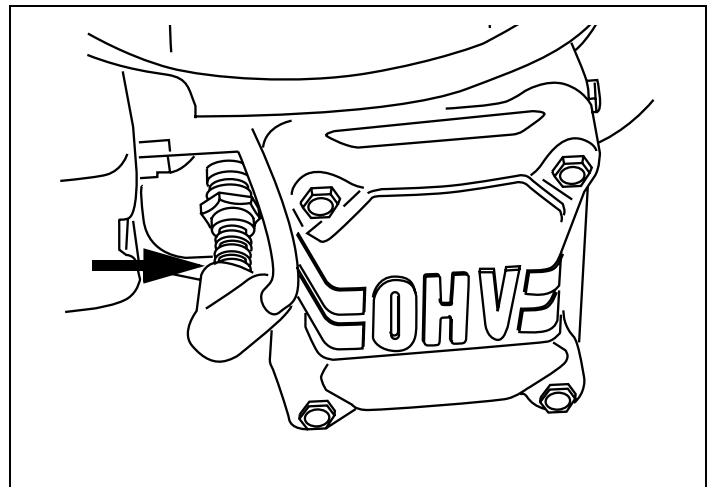

Figure 50. Typical Spark Plug Connection
10. Carefully re-connect spark plug wire to spark plug. See Figure 50.